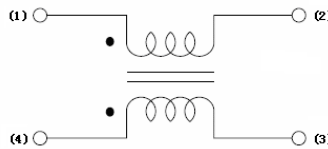

Fig.4-4
- 4.3 Equivalent circuit: See Fig. 4-4.